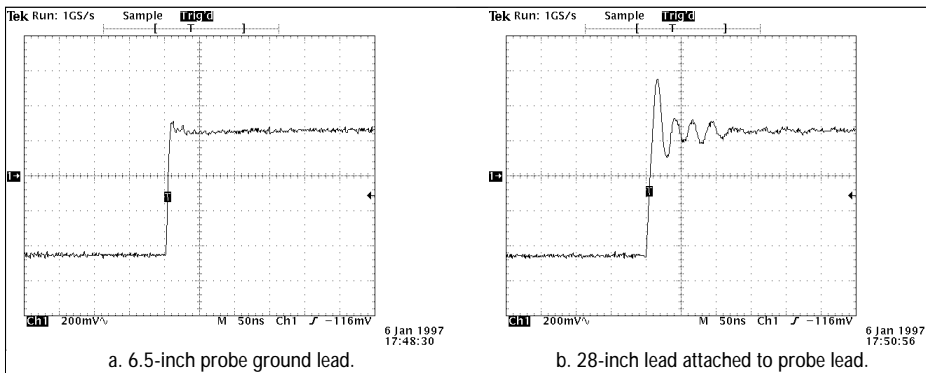

Figure 1-13. Extending the length of the probe ground lead can cause ringing to appear on pulses
**Keep ground leads as short and as direct as possible.** When doing performance checks or troubleshooting large boards or systems, it may be tempting to extend the probe's ground lead. An extended ground lead allows you to attach the ground once and freely move the probe around the system while you look at various test points. However, the added inductance of an extended ground lead can cause ringing to appear on fast-transition waveforms. This is illustrated in Figure 1-13, which shows waveform measurements made while using the standard probe ground lead and an extended ground lead.